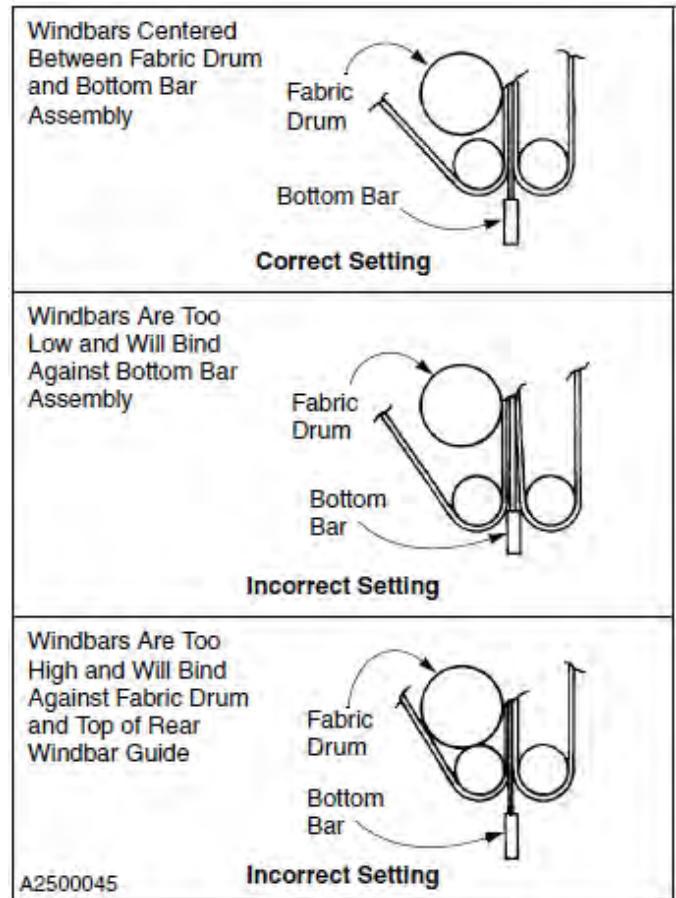

Figure 62
- The windbar(s) should be in the position shown in Figure 62.